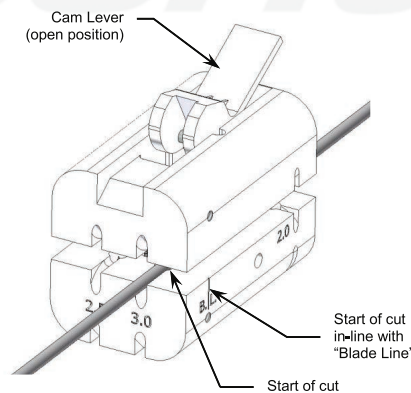

Figure 2
3. Position the tube in the appropriate channel, ensuring it is fully aligned. The blades are located at a groove mark, where indicated by B.L. This "blade line" is where the cut will start. (Figure 2)